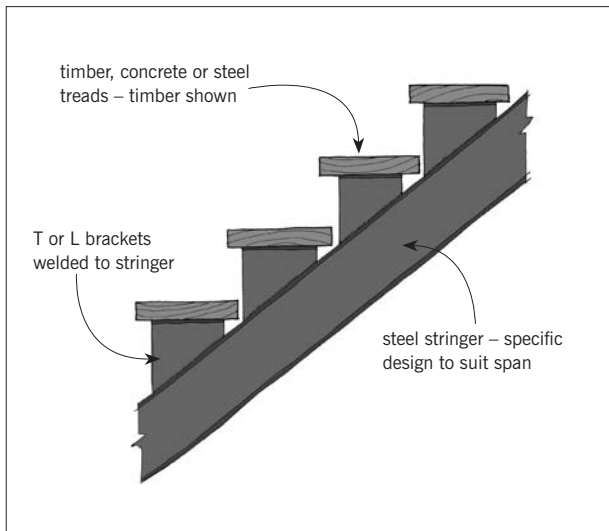

Figure 6. Stair with steel stringer.
7.0.1 For stairs of longer spans it is possible to use a steel stringer, with brackets welded to the stringer (Figures 6 and 7). The steel section can be sized using manufacturer's joist span tables or by specific design.